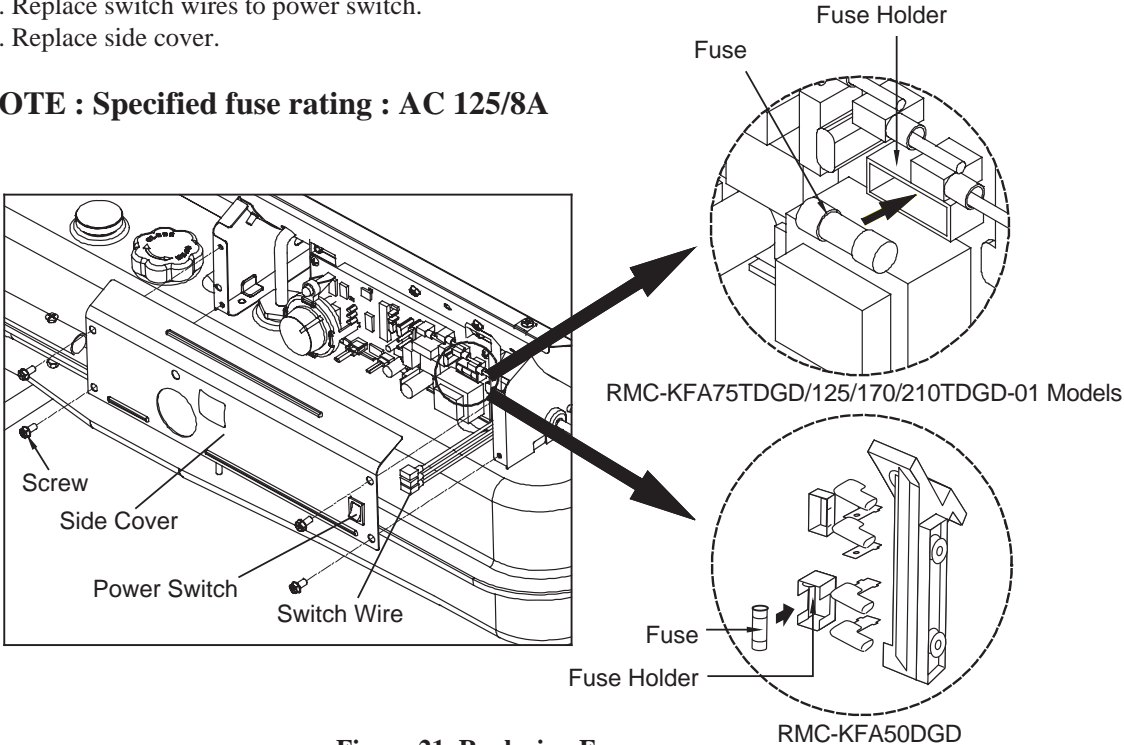

Figure 21. Replacing Fuse
- 4. Remove fuse from fuse holder.(See Figure 21.)